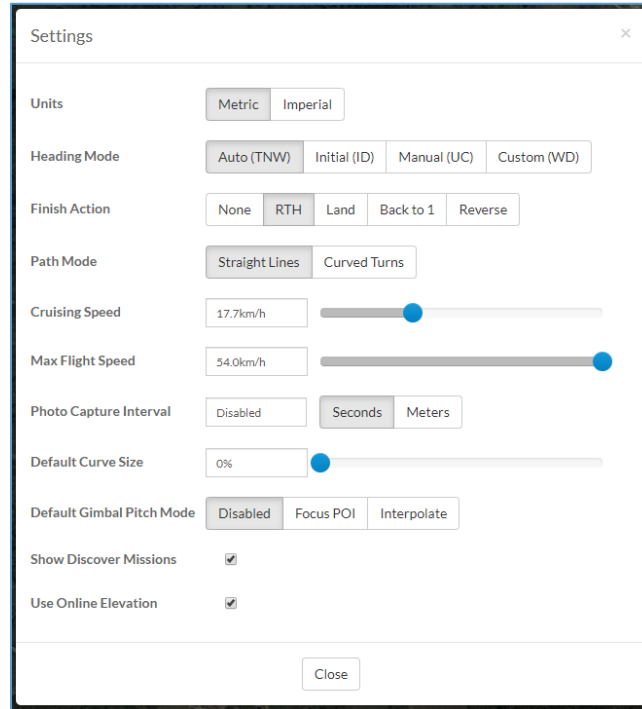

Figure 9 – Example Mission Hub Settings
2. Click settings and set the settings shown in Figure 9. Close when finished.